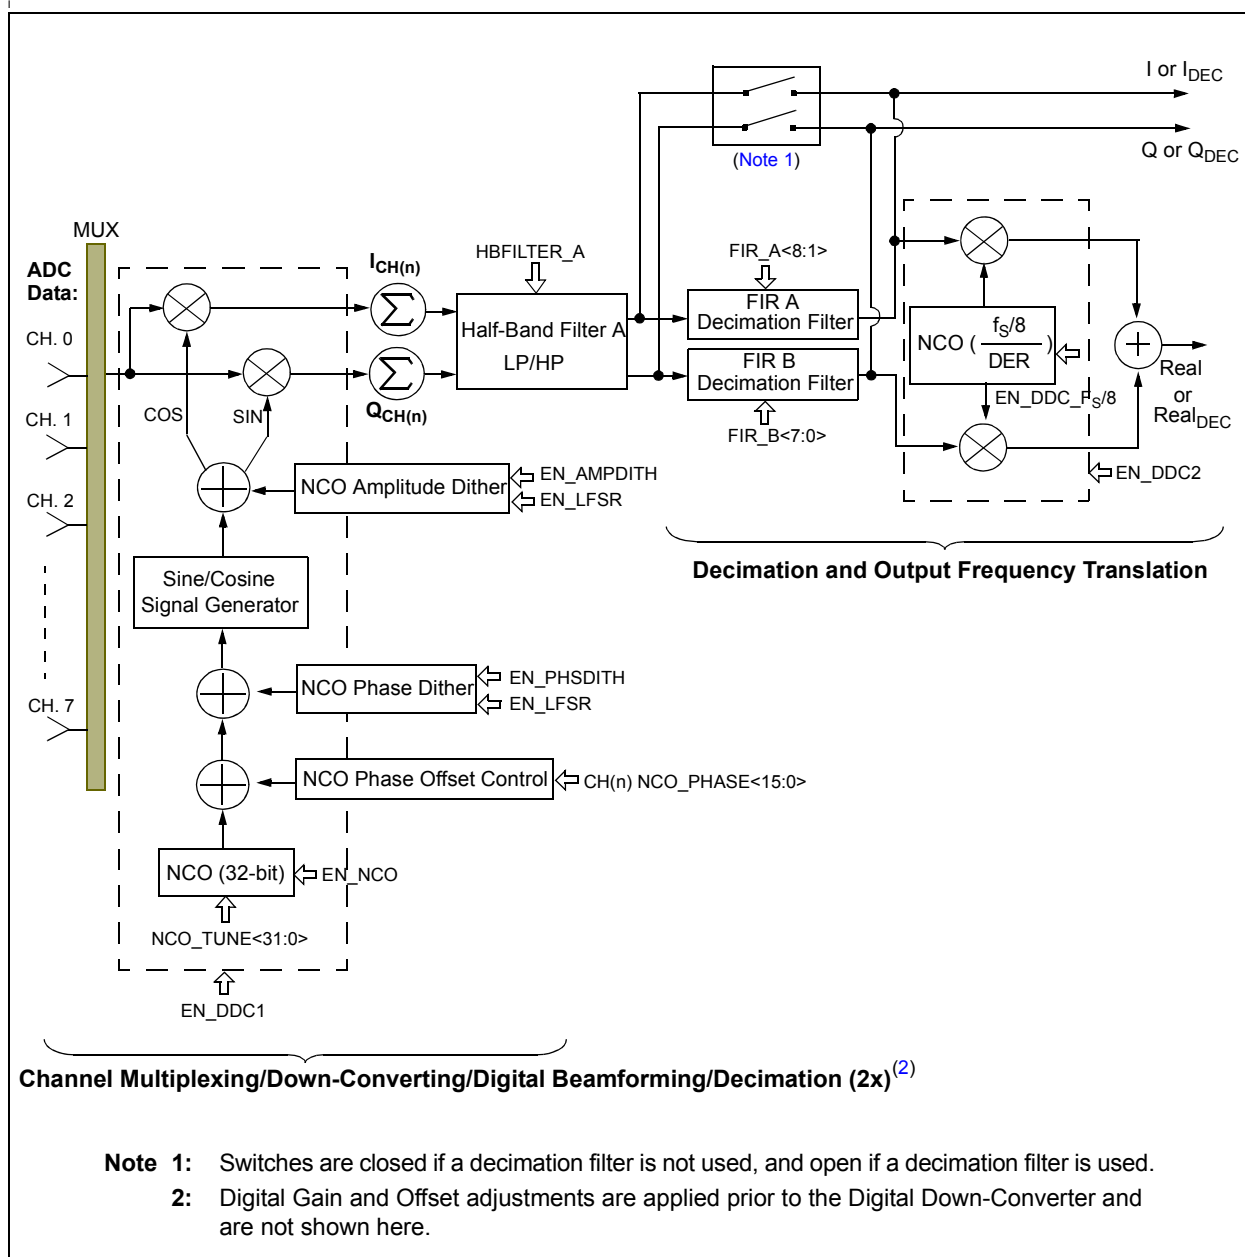

FIGURE 4-23: Simplified Block Diagram of CW Beamforming and I/Q Signal Processing - Available in MCP37D31/21-200 Only.
Along with beamforming, many modern medical ultrasound devices support Doppler imaging, which processes phase information in addition to the classical magnitude detection (for brightness imaging). Ultrasound Doppler signal processing is used to determine movement in the body as represented by blood flow, which can help diagnose the functioning of a heart valve or blood vessel, etc. In a traditional ultrasound system, all of these functions are typically accomplished with discrete components. Figure 4-23 shows an example of an ultrasound system implementation using various specialized components.
- **Down-Conversion for each channel** with a unique phase of the same NCO frequency prior to summing the eight channels as shown in Figure 4-23.